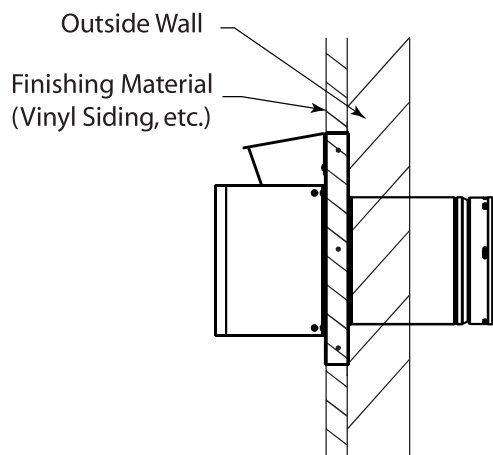

Figure 1 -
- Termination cap **MUST NOT** be recessed into a wall. Figure 1
- The flexible vent pipe cannot be intermingled with any of the rigid vent pipe sections. **DO NOT** connect two (2) sections of flexible vent pipe together to achieve a longer length.